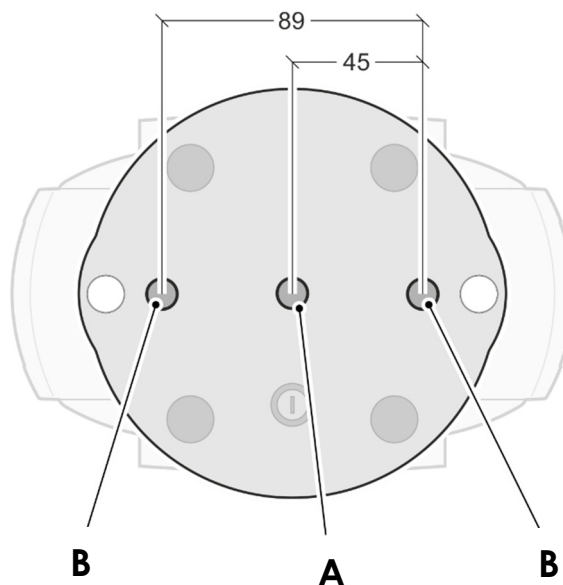

Figure 5. Mounting points in base
2. See Figure 5. Fasten the bolt through the rigging clamp into hole **A** in the center of the base of the fixture so that the rigging clamp is held securely. You can also install narrow half coupler clamps through holes **B**, but these extra clamps are not necessary.